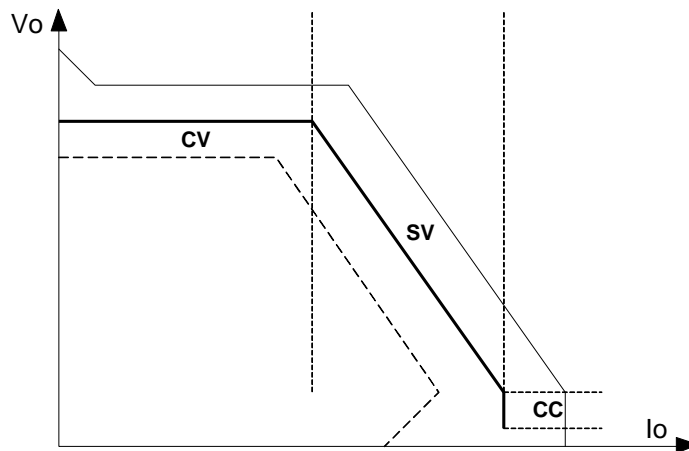

Figure 2. A Special IV Curve
Figure 2 is a typical IV curve special for shaver charger, comparing to a conventional charger. In addition to usual Constant Voltage (CV) part and Constant Current (CC) part, shaver charger requires a unique Slanted Voltage (SV) part. To achieve this special IV curve, the AP39811 creatively adopts a new control method, called Enhanced Cable Compensation method.